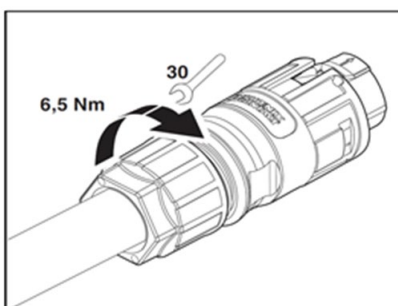

Fig. 18: Tightening the cable fitting
- Tighten the cable fitting with an open-ended spanner [ $\times W_{30}$  /  $\text{mm}$  6.5 Nm] (: Interconnection Fig. 18).